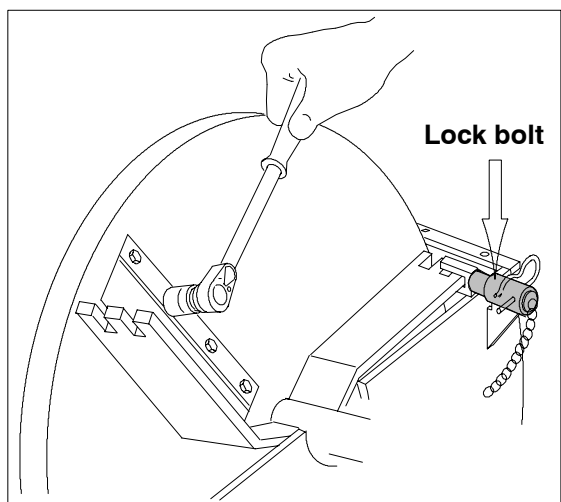

Fig. 18. Locking the disk and removing the lock nuts.
- Remove the upper chamber (A) securing bolts (M6) (B) and fastening bolts (M12) (C). Turn the upper chamber to the side.
- To remove the upper chamber, remove the securing bolt (M6) (D) and hinge bolt (M12) (E).
- Lock the disk with the lock bolt Fig. 18.
1. Remove the knife lock nuts (M10). Fig. 18.